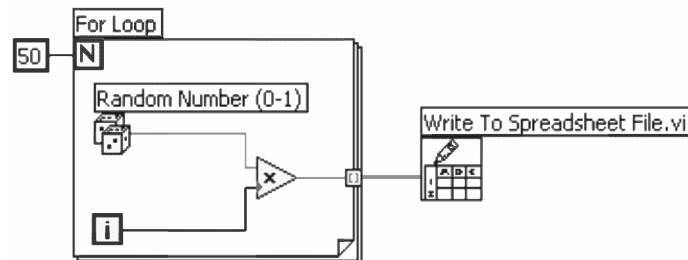

Figure 9.4 Write to Spreadsheet File.
**Write to Spreadsheet File**—Converts a 2D or 1D array of single-precision numbers to a text string and writes the string to a new ASCII file or appends the string to an existing file. You also can transpose the data. The VI opens or creates the file before writing to it and closes it afterwards. You can use this VI to create a text file readable by most spreadsheet applications as illustrated in Figure 9.4.